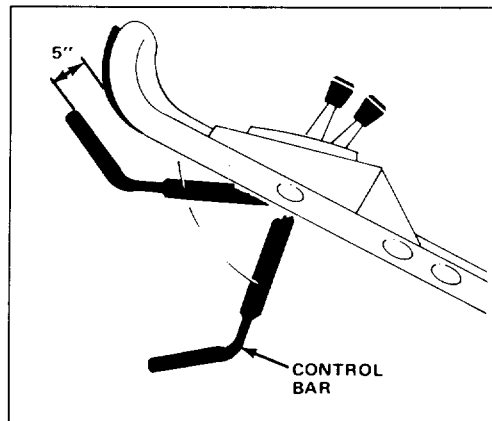

Figure 14
2. Push the control bar down to the lowest position (Fig. 14). This "cocks" the mechanism prior to engaging the blade.
3. Lift the control bar to the normal "blade engaged" position, about 1" below the handle (Fig. 14). The "fan" noise and bag inflation indicate that the mower blade is engaged and rotating.
6. Push the control bar down to its lowest position, cocking the mechanism (Fig. 14).